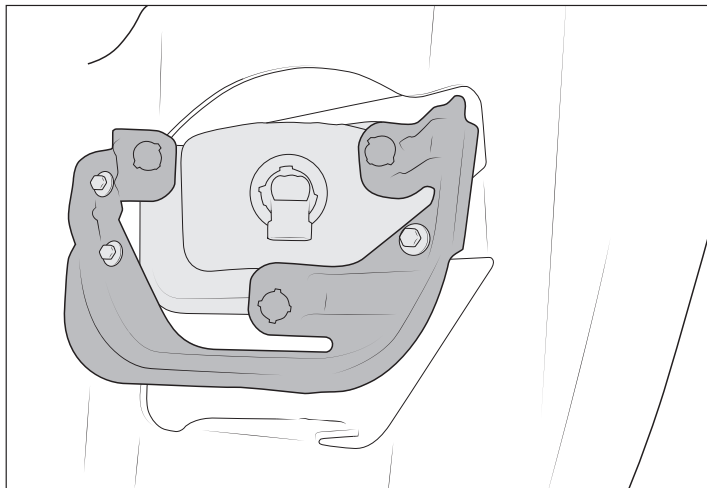

Figure 35
2. Install factory fog lights into bumper corners with factory hardware (fig 35). Torque to **9 lb-ft**.